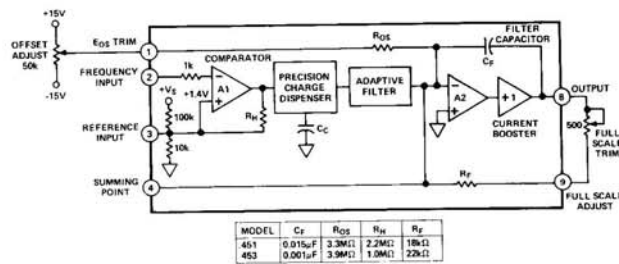

Figure 1. Block Diagram — Models 451 & 453 F/V Converters
Models 451 and 453 accept virtually any signal waveshape providing accurate conversion into an output voltage proportional to the input signal frequency. The only restriction is that the input signal must remain above the threshold level for  $20\mu\text{s}$  when using model 451, and  $2\mu\text{s}$  when using model 453. Linear, stable conversion over four decades of input range for model 451 and five decades of input range for model 453, is achieved using a precision charge-dispensing design approach. Figure 1 represents a functional block diagram for both models 451 and 453 frequency to voltage converters.
**Adjusting Input Threshold:** The input comparator of models 451 and 453 shown in Figure 1, conditions the input signals providing protection against noisy environments as well as preventing double triggering with slow rise-time signals. Input levels up to the supply voltages,  $\pm V_S$ , will not cause damage to the input comparator.
$R_H$  (see Figure 1) and the parallel combination of all resistors attached at the comparator positive input. For example, with a  $17.6k\Omega$  resistor connected to the REF terminal, hysteresis becomes  $\pm 35mV$  for model 451 and  $\pm 75mV$  for model 453. The F/V converter will, therefore, trigger at  $+6V \pm 35mV$  for model 451 and  $+6V \pm 75mV$  for model 453.